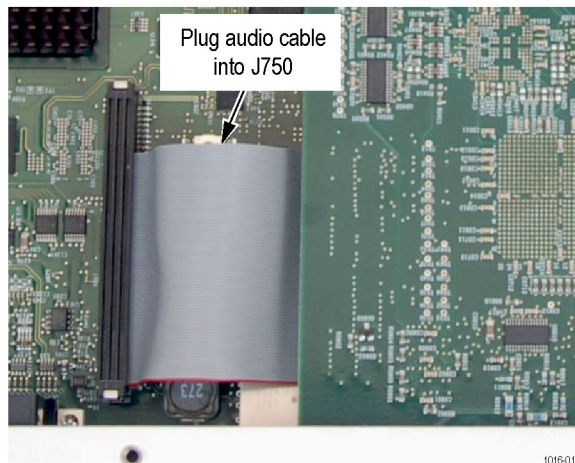

Figure 17: Audio cable
10. Plug the audio cable into connector J750. (See Figure 17.)